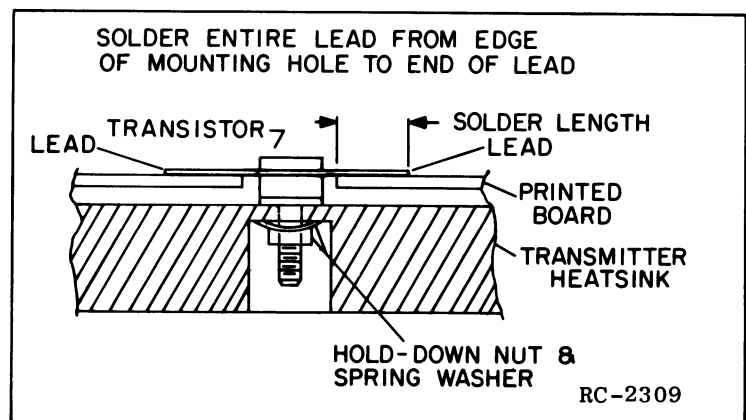

Figure 3 - Lead Forming
- (6) Make sure that the transistor leads are formed as shown in Figure 3 so that the leads can be soldered to the printed circuit pattern, starting from the inner edge of the mounting hole.
- (7) Solder the leads to the printed circuit pattern. Start at the inner edge of the mounting hole and solder the remaining length of transistor lead to the board. Use care not to use excessive heat that causes the printed wire board runs to lift up from the board. Check for shorts and solder bridges before applying power.